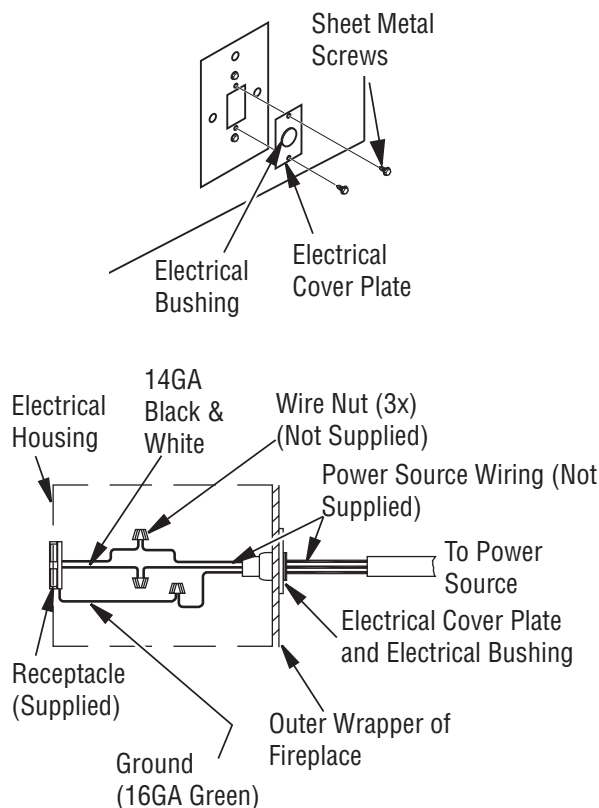

Figure 9 - Connecting Electricity
1. Remove electrical cover plate with bushing from left side of fireplace front by removing 2 sheet metal screws as shown in *Figure 9*.
3. Slide all wiring connections in electrical housing as shown in *Figure 9*.